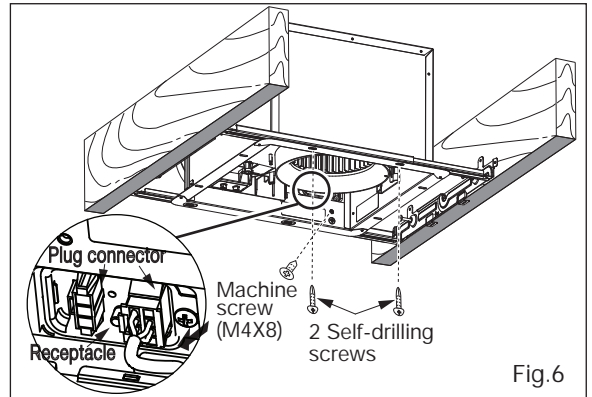

Fig.6
8. Insert fan body and slide into adaptor assy with some strength, until the flange overlaps the Flex-ZFast™ bracket. Secure the fan body to Flex-ZFast™ bracket by using 2 self-drilling screws, plug connector to receptacle and secure the fan body to adaptor by using machine screw (M4X8). (Fig.6)